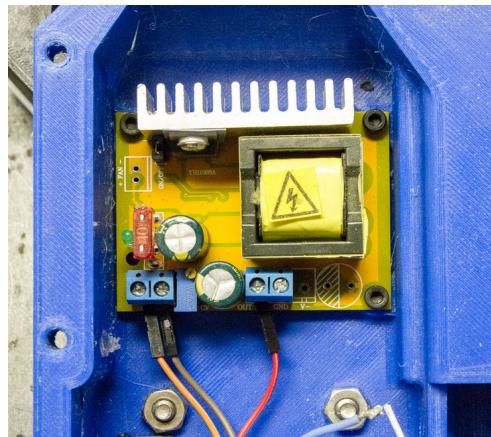

Figure 18: High-Voltage Boost Converter
43. Measure the input voltage at the batteries as shown in figure 18. Using the **Encoder Wheel**, adjust the voltage displayed to match the input voltage. *NOTE: if you purchased a control board from me, the voltage should be correct already.*